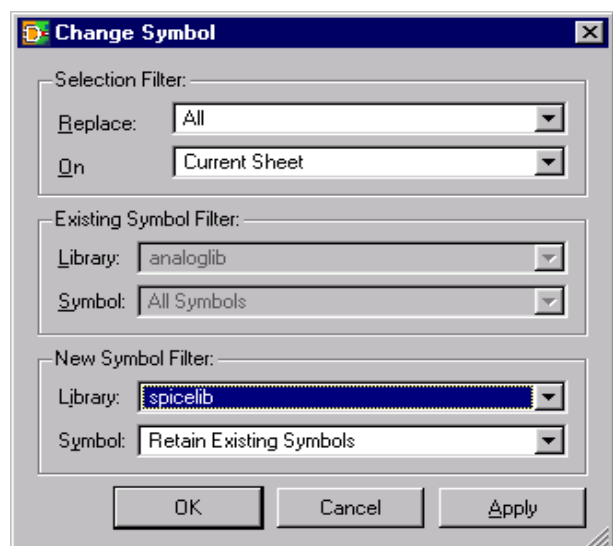

Figure 5. Changing the library origin of the instances.
2. Set the New Library to 'spicelib' as seen in Figure 5